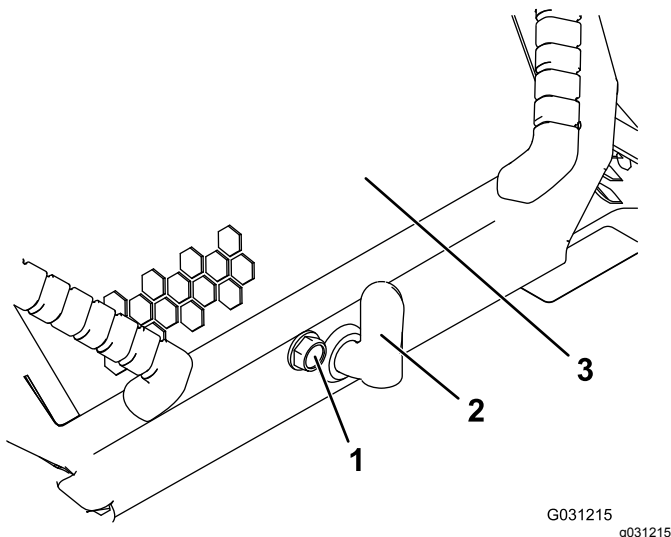

Figure 32
1. Loosen the hood-locking screw (Figure 32)
2. Turn the hood latch clockwise (Figure 32).
3. Lift up on the handles and swing the hood up (Figure 32).
3. Tighten the hood-locking screw to secure the latch (Figure 32).